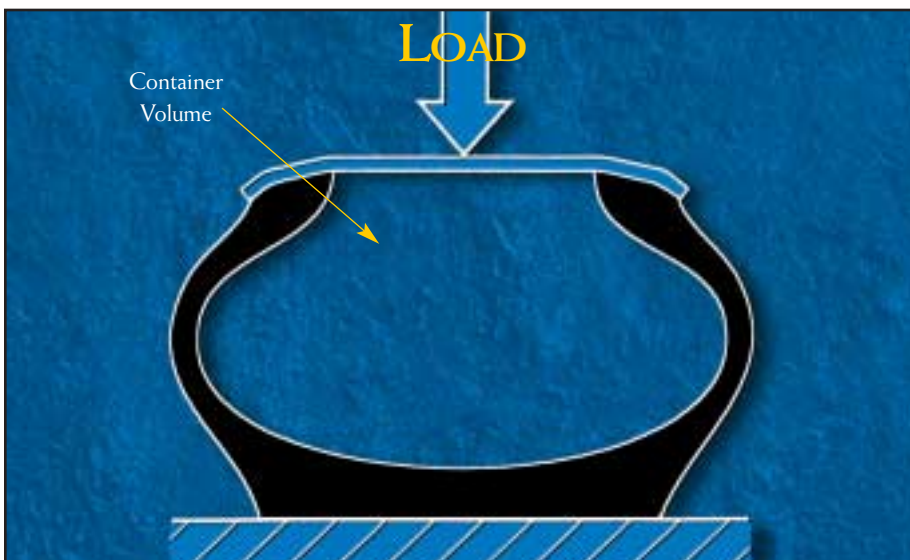

Figure 5.1
**Figure 5.1** Your tires provide traction for braking, accelerating and turning and must carry out these tasks for many miles. Without proper inflation pressure, tires cannot carry out these tasks as they were designed to do.